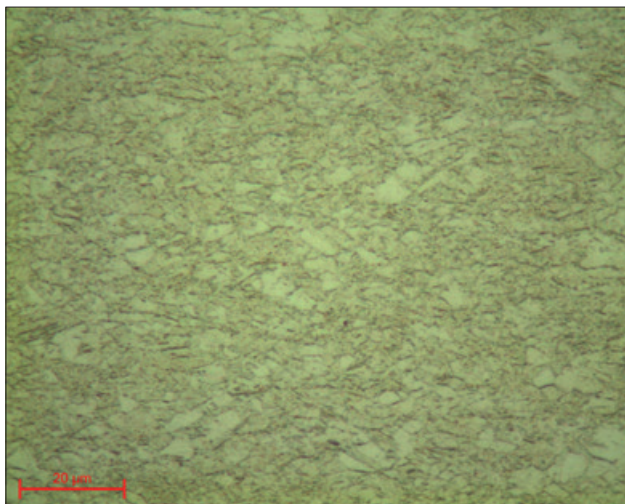

Fig 17: Brass after etching
- alcoholic solution of Fe III acid chloride (figure 17)